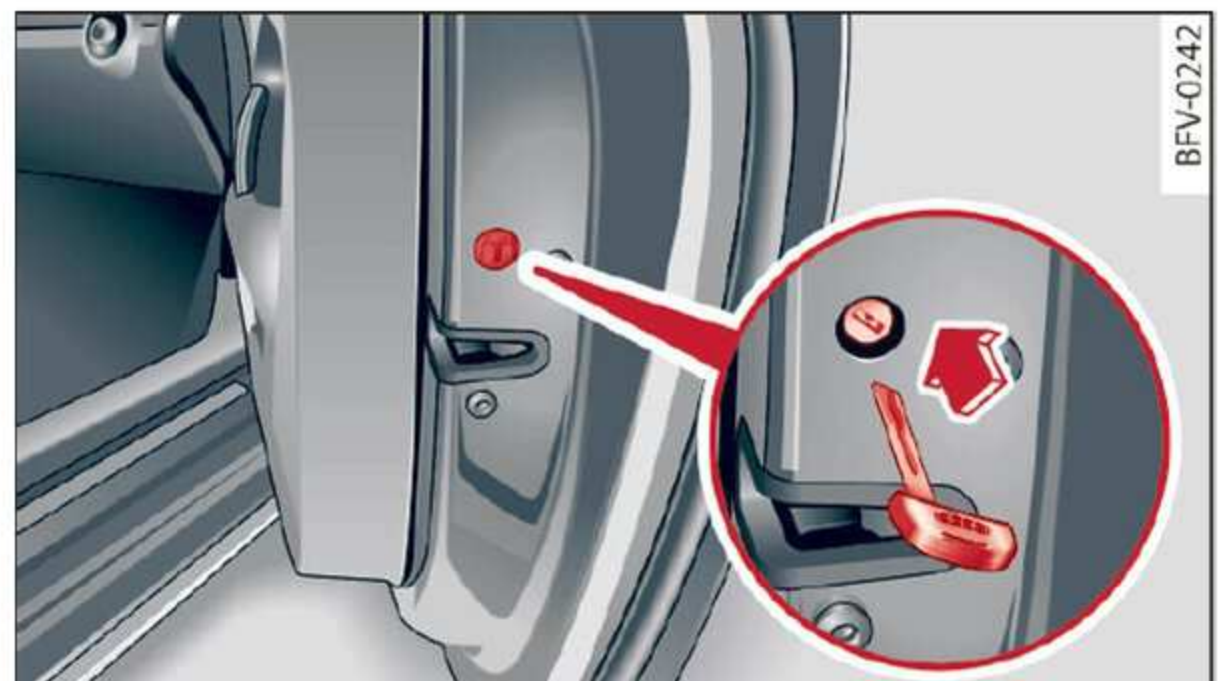

Fig. 19 Front passenger's door: emergency release
- ▶ Remove the cap from the opening ⇒ *fig. 19*. ▶